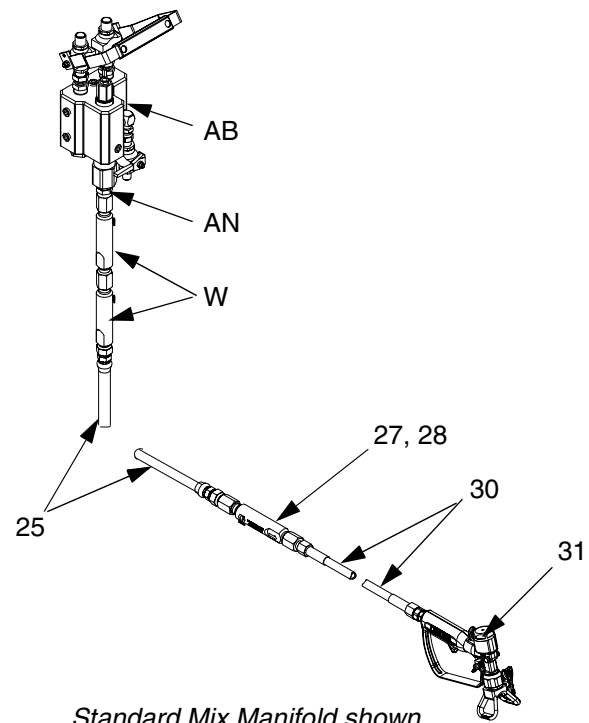

FIG. 9
1. Connect the outlet of the two primary static mixer tubes with mixer elements (W) to the fluid mix hose (25), cleanup mixer (27, 28), whip hose (30), and spray gun (31). See FIG. 9.
2. Add mixed material hose as necessary between the mix hose (25) and cleanup mixer (27, 28).